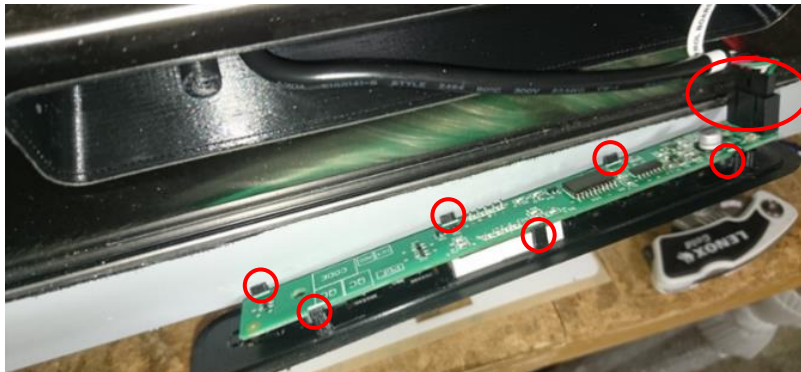

Figure 95: Removing Overlay.
- f. Remove LED UI Display/Board from control housing (held in place by 5 tabs) and disconnect harness. **See Figure 95.**